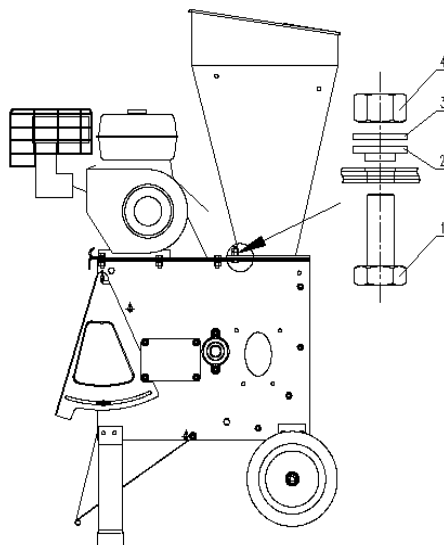

figure 2
2. Attaching the funnel to the basic machine, see figure 2
- 2.2. Fasten the bolt 1 with washer 2, gasket 3 and nut 4. See figure 2.